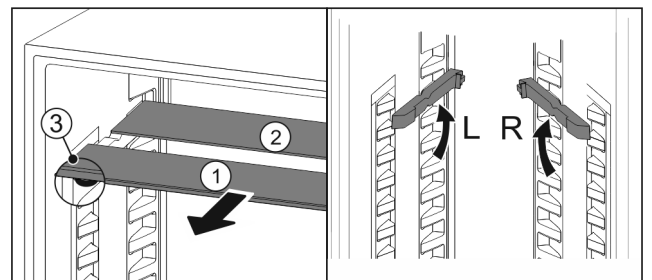

Fig. 139
- Pull the glass panels out Fig. 139 (1) from the front, one at a time.
- The glass panel Fig. 139 (1) and trim strip are at the front.
- The stops Fig. 139 (3) point down.